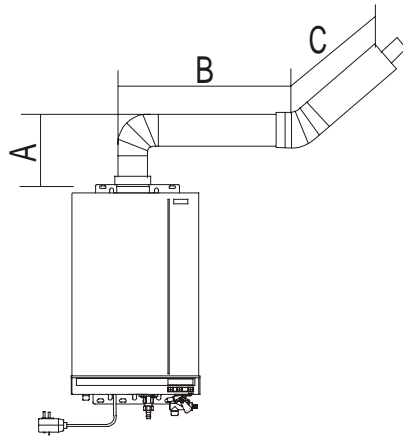

Fig.13
- The whole length of the flue (A+B+C) should be less than 2m, and the number of the elbow should not be more than 3, otherwise it will cause results like explosive combustion, flame out etc.. (Fig. 13)